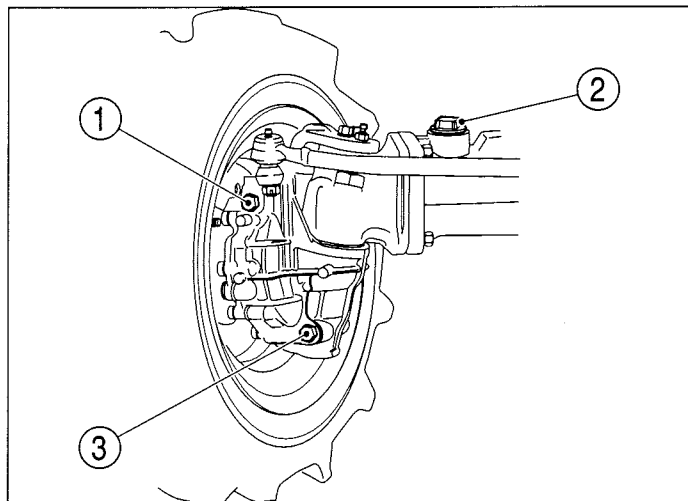

FIG. 80
FIG. 80: To Check Oil Level - Park the tractor on level ground and then remove the oil level plug (1). Oil should be level with or slightly below the level plug opening. Remove the fill plug (2) and add oil until oil is expressed from the level plug opening. Replace the level plug and fill plug.